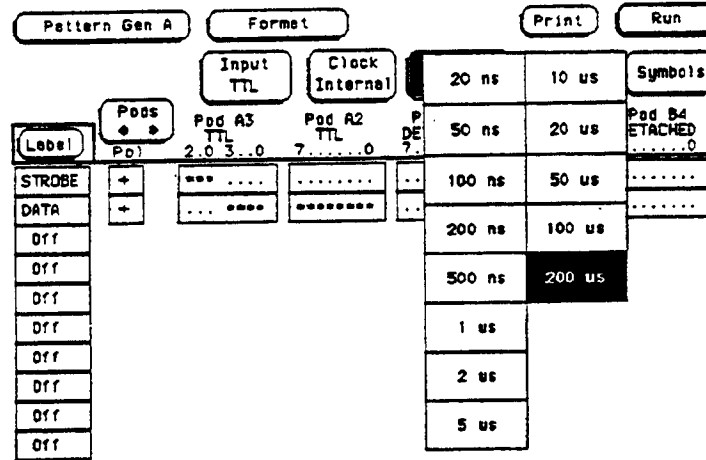

Figure 3-4. Clock Period Screen
- e. Touch Period and set Internal clock to 200  $\mu$ s as shown in figure 3-4.